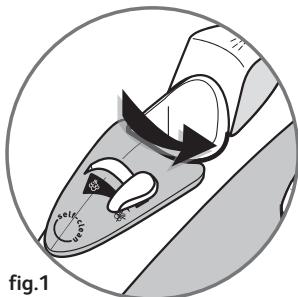

fig.1
- Unplug your iron before filling it and set the steam control to  (fig.1).